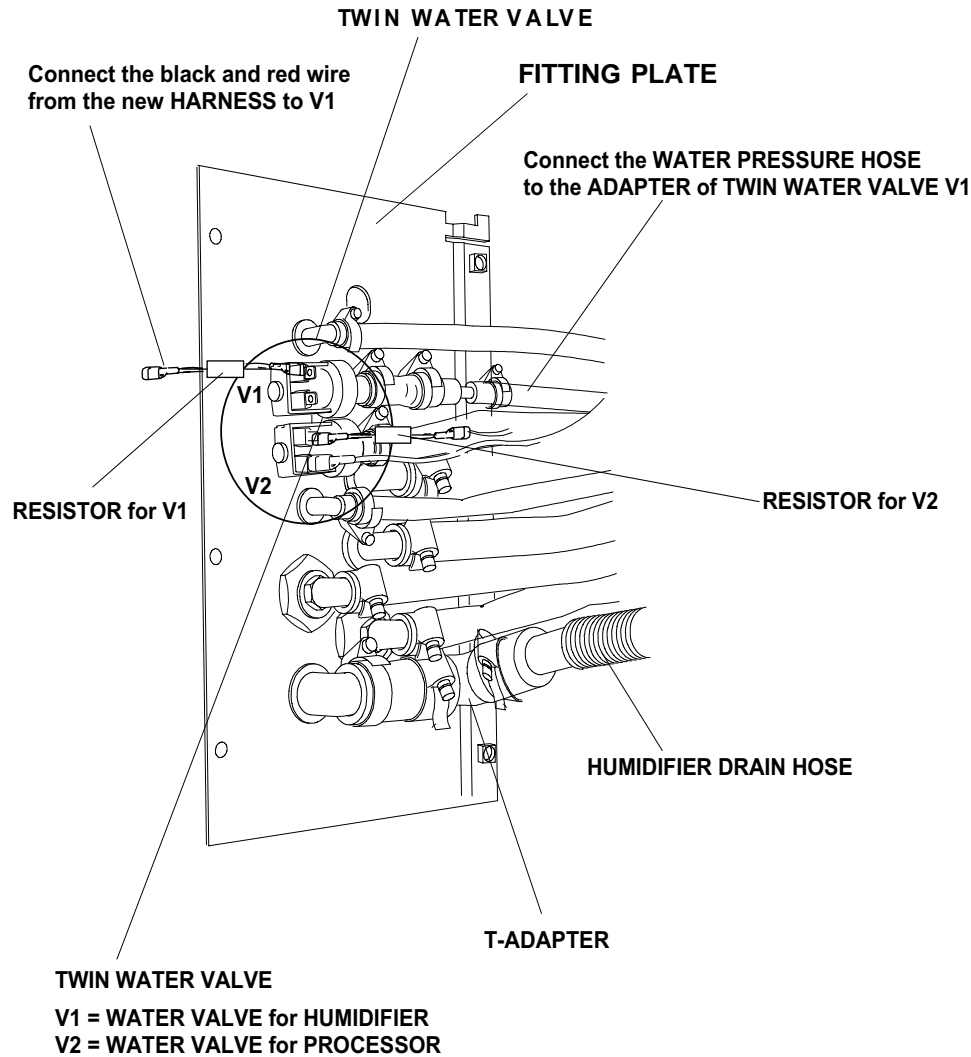

figure 2-15
35. Replace the existing FITTING PLATE (see figure 2-15) with the FITTING PLATE from the MOD-KIT. There is not enough space between the FITTINGS to install the new TWIN WATER VALVE between them. Therefore the new altered FITTING PLATE has to be installed. Discard the old SINGLE WATER VALVE.
36. Install the TWIN WATER VALVE. See figure 2-15.
- 37.** Connect the black WIRE from the new HARNESS to one TERMINAL of the **top** WATER VALVE V1. This is the WATER VALVE for the HUMIDIFIER. Connect the red WIRE with the 56 Ω RESISTOR in line, to the other TERMINAL of V1. See figure 2-15.
- 39.** Connect the WATER PRESSURE HOSE to V1 of the TWIN WATER VALVE. Secure the hose with a HOSE CLAMP. As in figure 2-15.